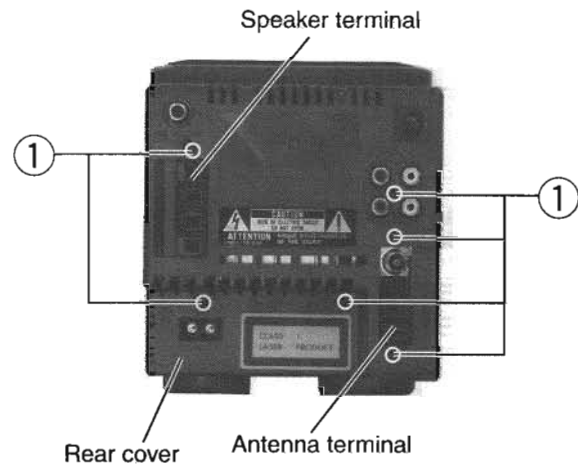

Fig.1
■ Removing Rear cover (see Fig.1 - 3)
1. Remove the six screws ① in the rear body.
2. Remove the two screws ② on the top of the body.
3. Remove the two screws ③ in the bottom of the body.